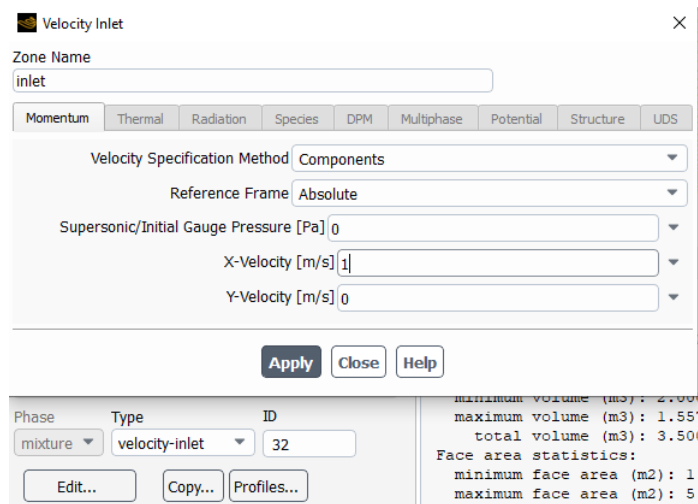

Figure 7: Inlet Boundary Conditions.
2. Click **inlet**, choose the type as **velocity-inlet**, then click **Edit**. Change the **Velocity Specification Method** to **Components**, then set **X-Velocity** as 1, as shown in Fig. 7